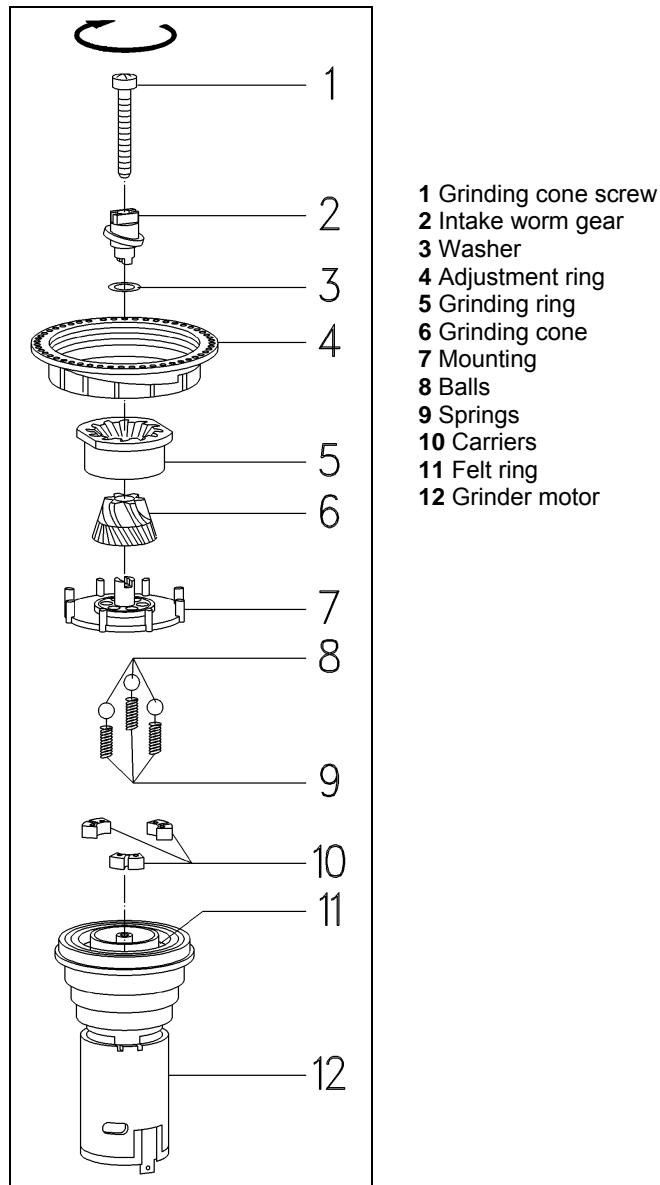

Figure 5-49: Grinder, Disassembled
13. Remove the grinding cone retaining screw (Figure 5-49, Item 1) by turning it clockwise (left-hand thread!).
14. Remove the intake worm gear (Figure 5-49, Item 2).
15. Remove the washer (Figure 5-49, Item 3).
When the grinding cone (Figure 5-49, Item 6) is removed, the balls (Figure 5-49, Item 8) may stick to it and then fall off. Lift the cone up slowly!
16. Remove the grinding cone (Figure 5-49, Item 6).
17. Remove the balls (Figure 5-49, Item 8).
18. Remove the mounting (Figure 5-49, Item 7).
19. Remove the springs (Figure 5-49, Item 9).
20. Remove the carriers (Figure 5-49, Item 10).
21. Remove the felt ring (Figure 5-49, Item 11).
The grinder ring (Figure 5-49, Item 6) and the grinder cone (Figure 5-49, Item 5) should only be replaced together.
1. Replace the felt ring (Figure 5-49, Item 11).
2. Replace the carriers (Figure 5-49, Item 10).
3. Replace the mounting (Figure 5-49, Item 7).
4. Replace the springs (Figure 5-49, Item 9).
5. Replace the balls (Figure 5-49, Item 8).
6. Replace the grinding cone (Figure 5-49, Item 6); ensure that the balls are seated in the grinding cone.
7. Replace the washer (Figure 5-49, Item 3).
8. Replace the intake worm gear (Figure 5-49, Item 2), press it down, and turn it until the coupling engages.
9. Tighten the grinding cone retaining screw (Figure 5-49, Item 1) counterclockwise (left-hand thread!). Ensure that the intake worm gear coupling has engaged properly.